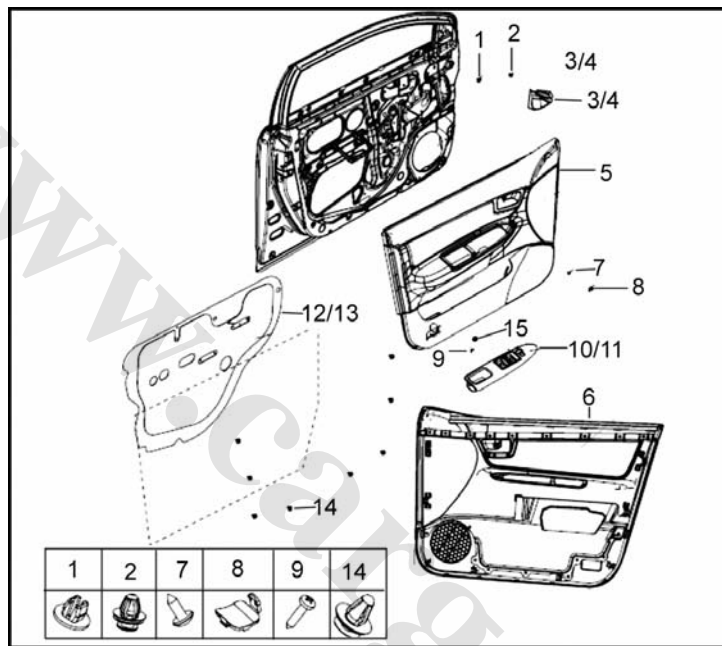

Fig. 7-23
1. Removal of the front side door, as shown in Fig. 7-23: